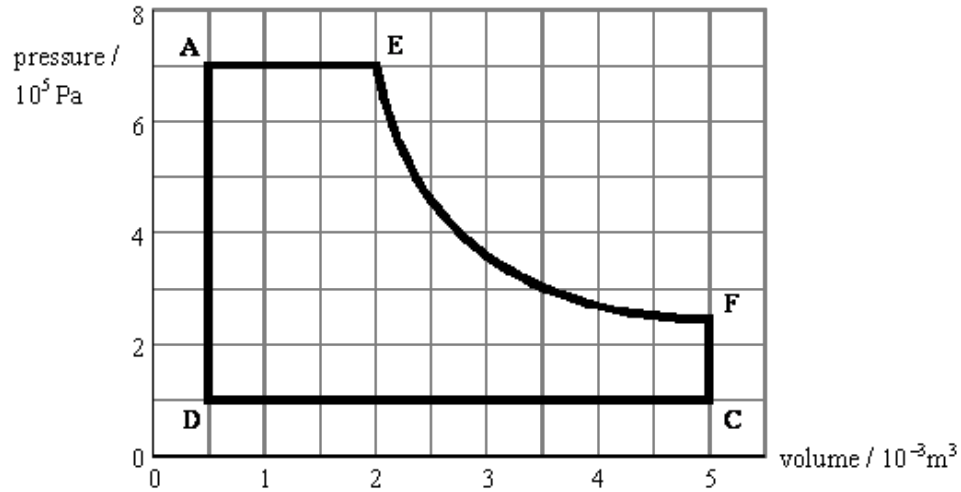

Figure 2
- (b) In a modified version of the engine, the steam input is cut off when the piston is part way along its stroke. The new indicator diagram is shown in **Figure 2**.